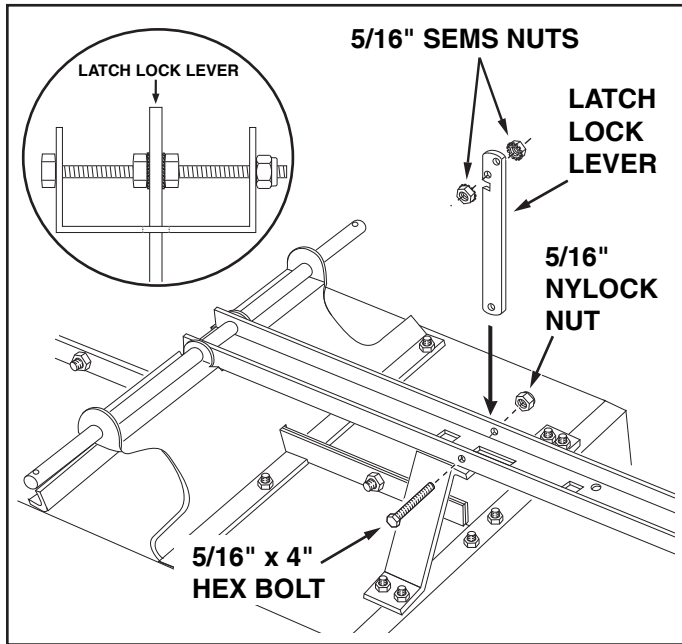

FIGURE 8
17. Place the latch lock lever through the slot in the tongue. Insert the 5/16" x 4" hex bolt through one side of the tongue. Assemble a (SEMS) hex nut, the lever and another (SEMS) hex nut onto the hex bolt. Insert the hex bolt through the opposite side of the tongue and assemble a 5/16" nylock nut onto the end of the hex bolt. Tighten so that the hex bolt can still rotate freely. Tighten the two (SEMS) hex nuts against each side of the latch lock lever so that it is centered in the slot. See figure 8.